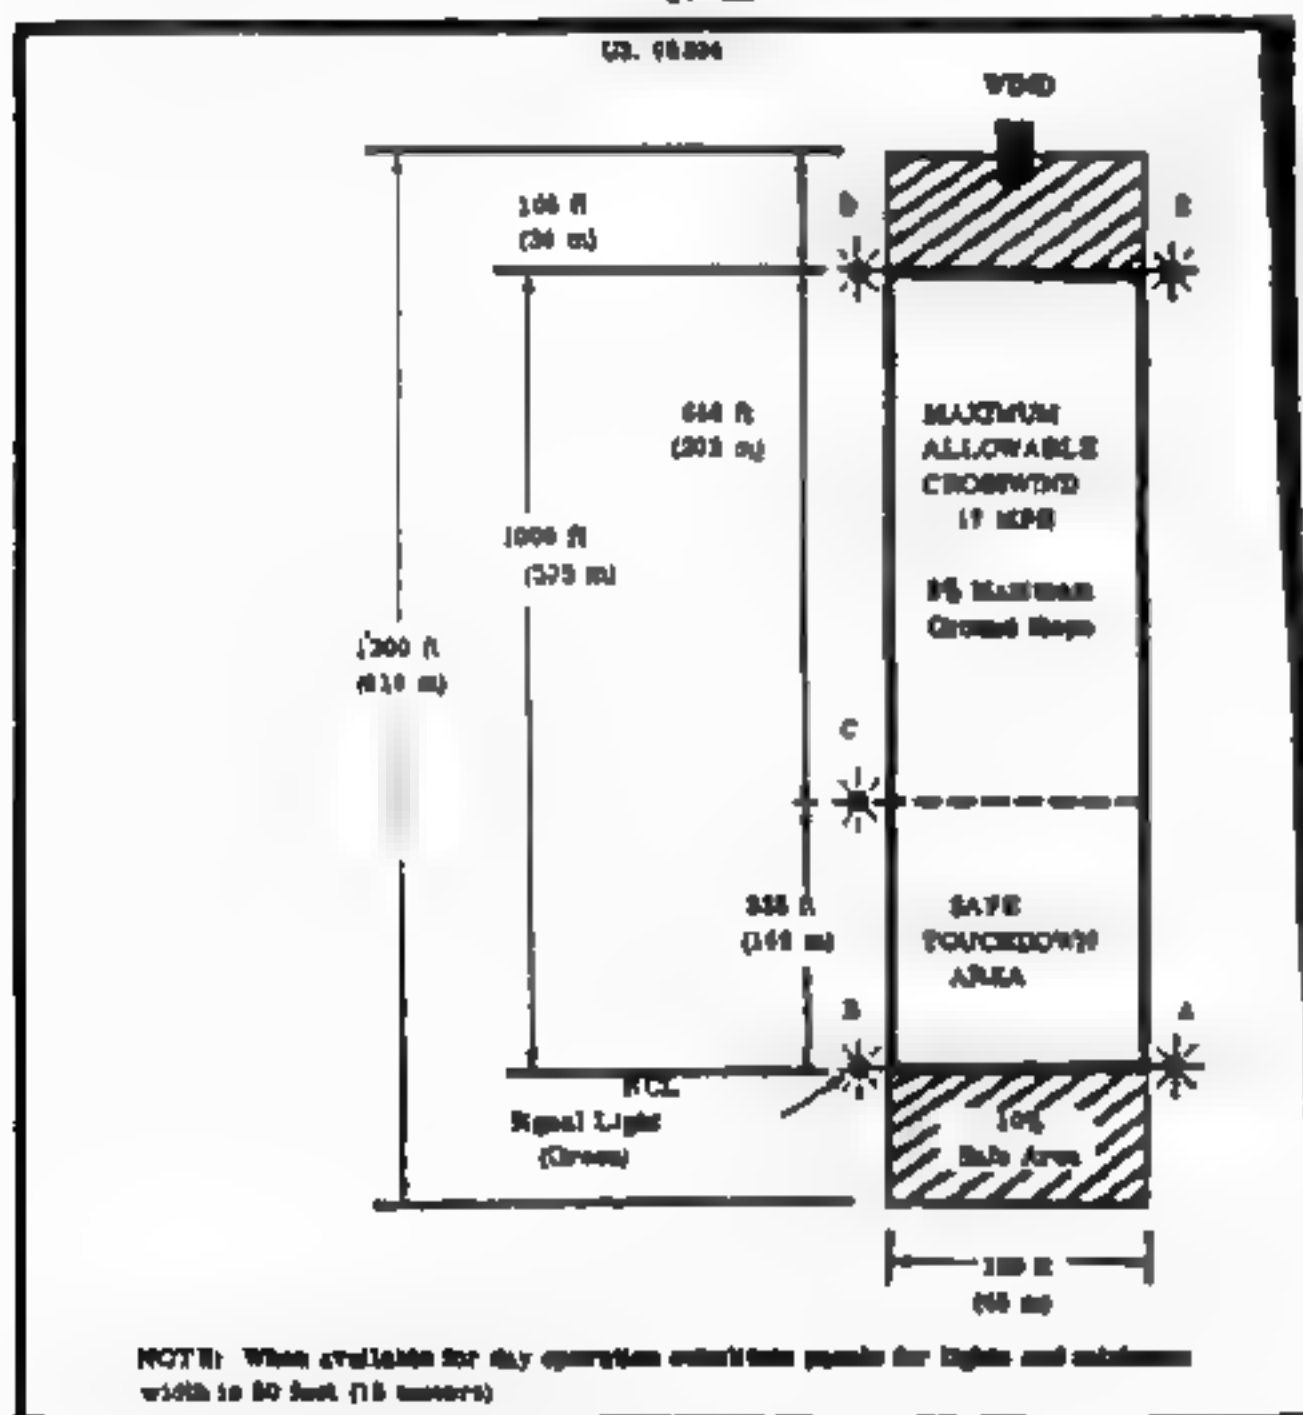

Figure 12. Landing zone (day) light aircraft (night operations).
(2) Weather. Prevailing weather in the landing area should be favorable. In particular, there must be a determination of wind direction and velocity, and of conditions restricting visibility such as ground fog, haze, or low-hanging cloud formations.
(3) Size. The required size of LZ's varies according to the aircraft used. Safe operations require the following minimum dimensions (Figures 12 and 13).